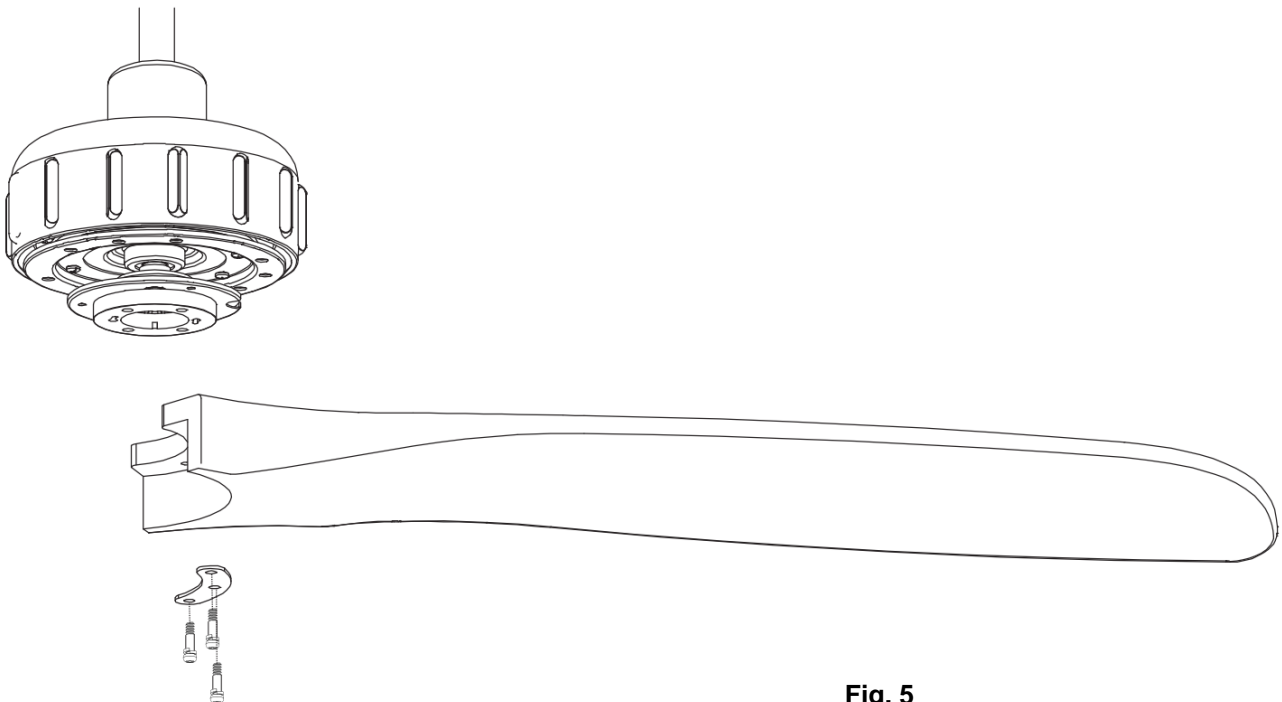

Fig. 5
INSTALLATION OF BLADE (Fig. 5)
1. Orientate the blade Support plate and fan blade onto the fan assembly (Fig.5)
Mount the fan blade onto the fan assembly using three blade screws with lockwashers (supplied in fan parts bag) (Fig.5).